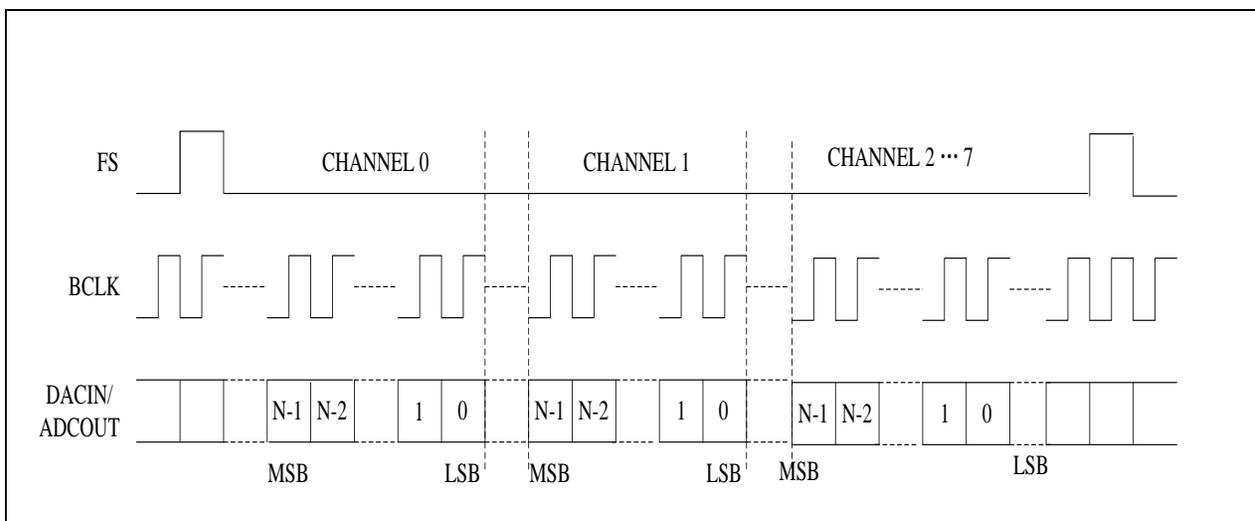

Figure 33 PCM Time Slot Audio Data
Normally, the DAC and ADC data are clocked immediately after the Frame Sync (FS); however, in PCM Time Slot Mode, the audio data can be delayed by setting LEFT TIME SLOT TSLOT_L0 REG0XF9:0 and [RIGHT TIME SLOT TSLOT_R0 REG0X10\[9:0\]](#) for the left and right channels, respectively. [I2S_PCM_CTRL2 PCM_TS_EN0 REG0XE\[10\]](#) needs to be set to 1. These delays can be seen before the MSB in Figure 33.